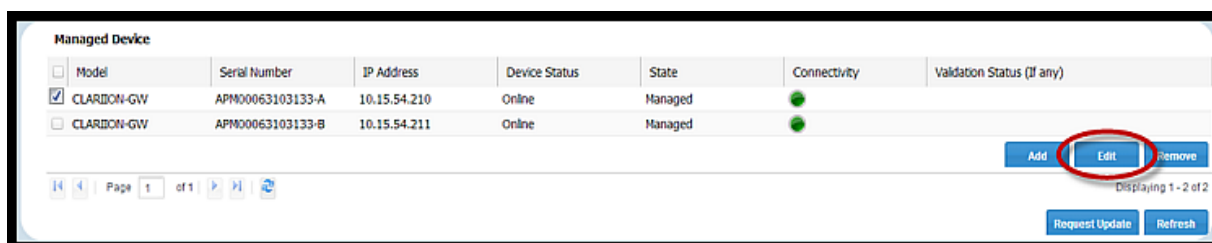

Figure 25 Selecting device to be edited
- In the Manage Device page, check the device to be edited, and then click **Edit**, as shown in Figure 25 on page 32. The **SRS Manage Device** window appears.